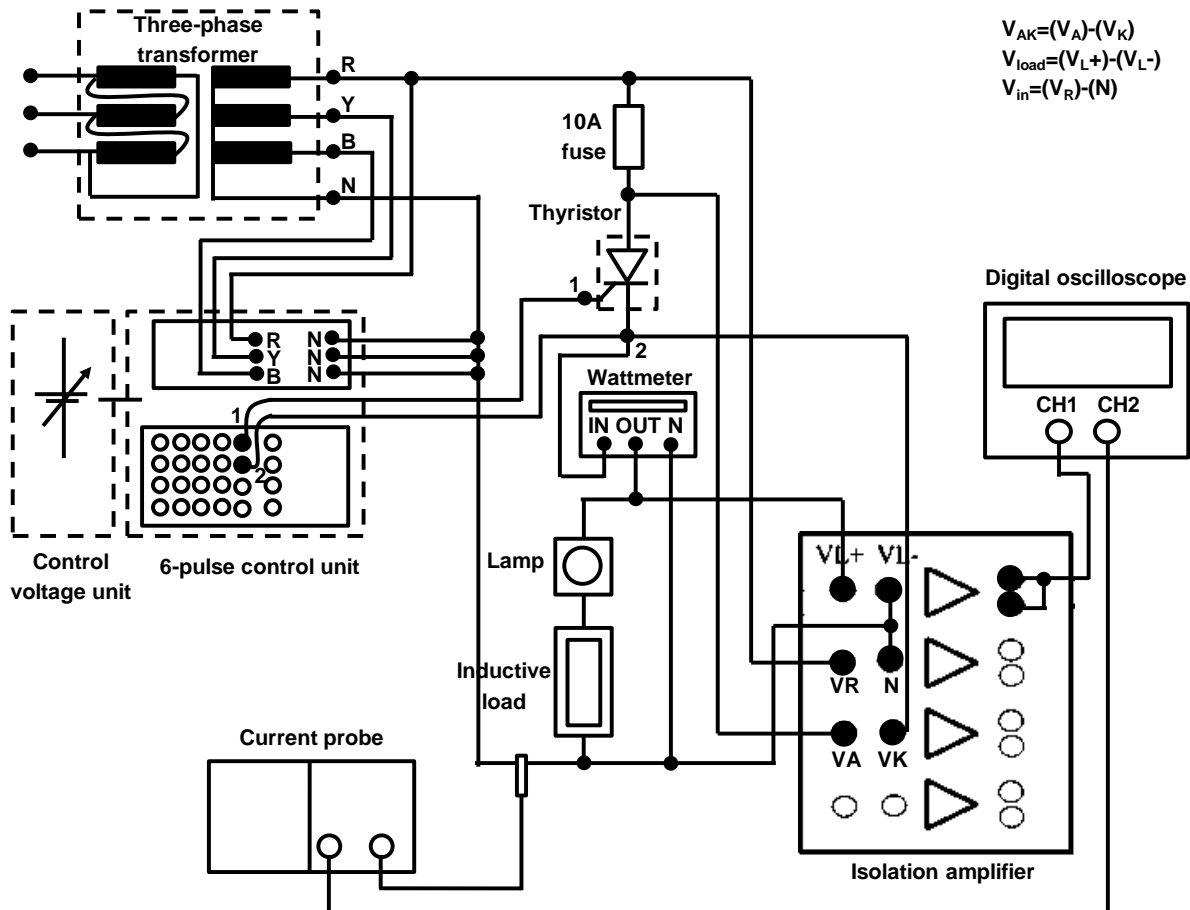

Figure 1
1. Connect the circuit as shown in Figure 1. Use firing angle = 90° and save the following oscilloscope figures in a pendrive or capture using a camera: